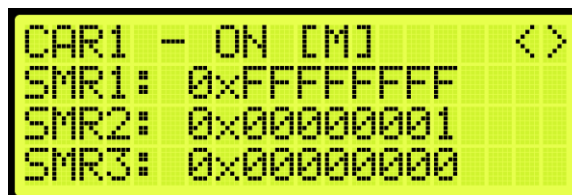

Figure 367: Rear Security Map Status
7. From the Rear Security Map Status (See Figure 367), press the right button.